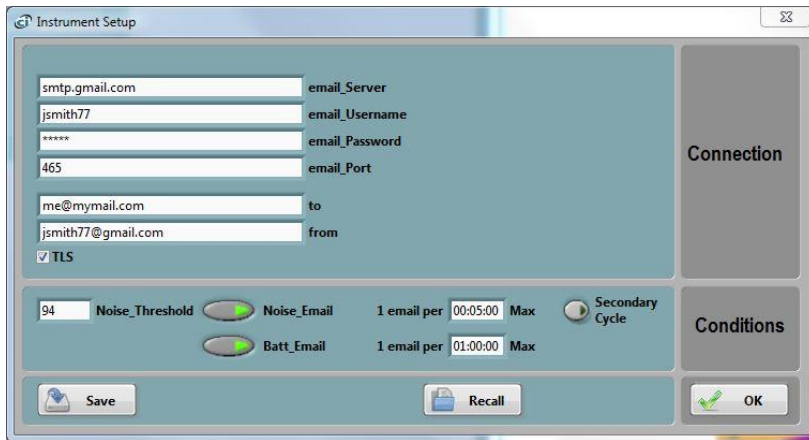

Figure 20 Email Setup
- **Recipient(s)** The recipient line (*to* line in Figure 20). If more than one recipient needs to receive the alerts, each email should be separated by a semi-colon “;”
The application by default shows the settings for a fictitious secure *gmail* account (see Figure 20). These settings of course need to be changed to reflect the user’s own email account settings and recipient email address. Note that in recent years *gmail* has worked to disallow emails sent by automation. So, even